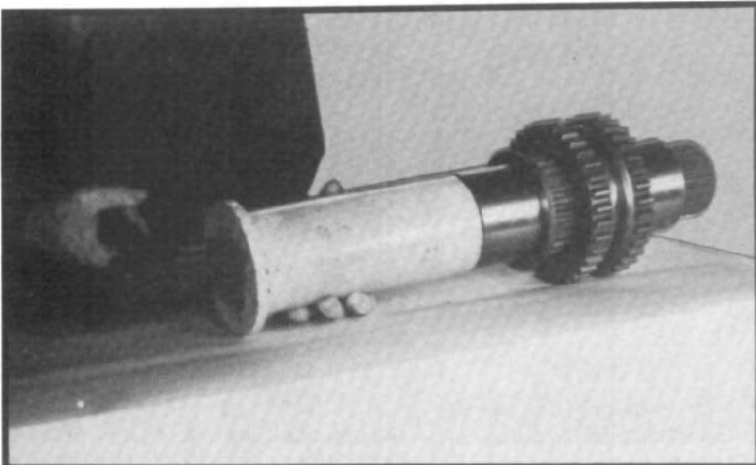

Fig. 112
- 2.3 Tap the needle bearing inner races over each end of shaft with a suitable driver. The wider inner race is located on the front side of the shaft and the shorter' race is located on the rear side. (The needle bearing inner race must be snug against the thrust washer.) (See fig. 112.)